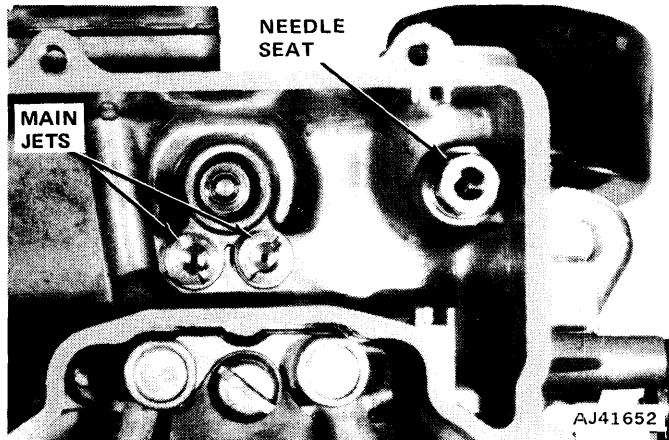

Fig. 4-74 Interior View of Fuel Bowl
(14) Remove fuel inlet needle seat and gasket. Remove main jets with Main Metering Jet Wrench J-10174-01 (fig. 4-74).